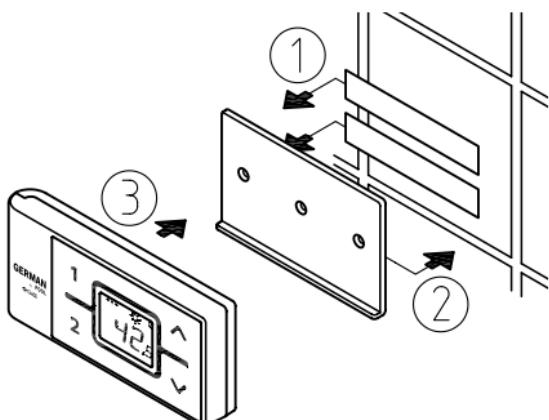
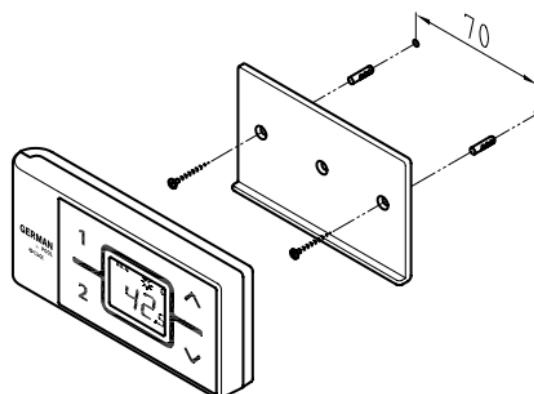

Figure 1:
Figure 2:
- The wall bracket of the remote control can either be attached securely with the included adhesive tape, after stripping off the protection film (as shown in the figure 1), on a rigid board (e.g. tile) or with suitable dowels (\varnothing 4mm) and screws (as shown in the figure 2).